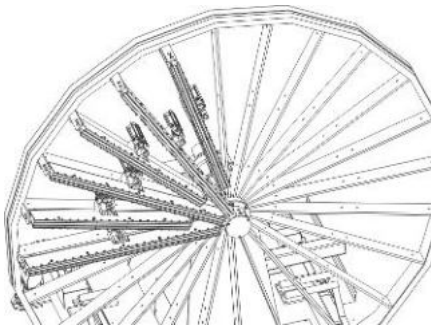

Fig. 38: Wire clamps
4. Close wire clamps on the Control Panel (Fig. 37) and visually check whether all wire clamps (Fig. 38) are closed.